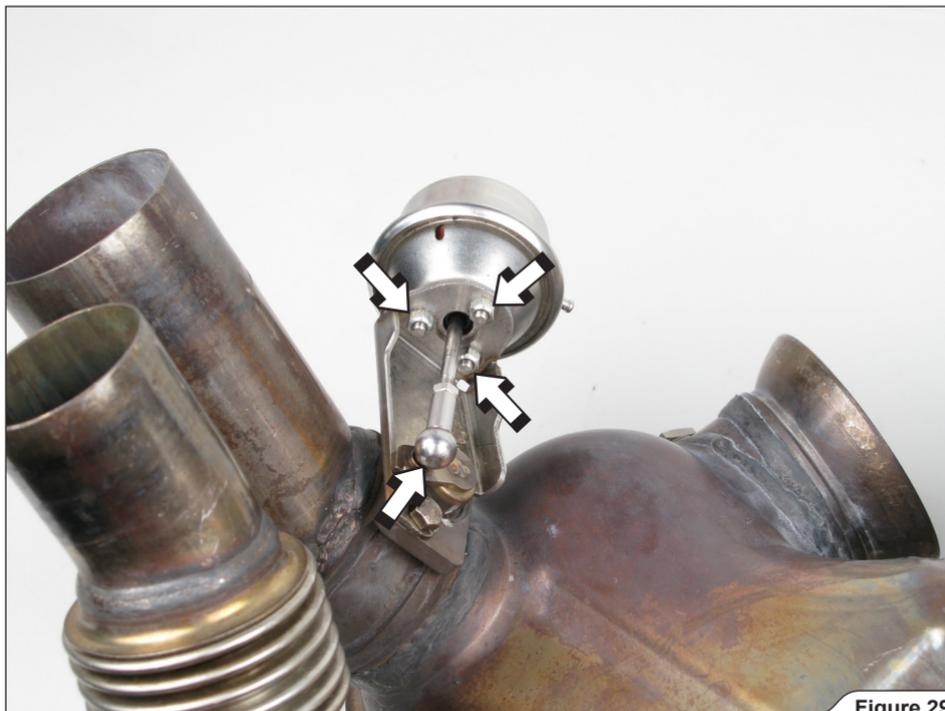

Figure 29
11. **For Evolution and SlipOn-Race:** unscrew and remove the vacuum cylinder from stock link pipe (Figure 29). Repeat the process on both sides.